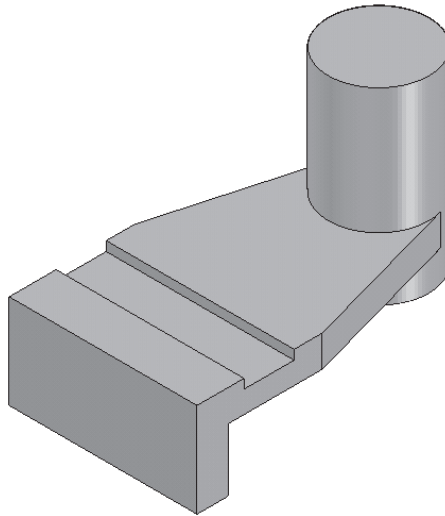

Figure 5-61 Model after creating the third feature
- c. Define a reference plane at an offset of 10 units from the bottom face of the second feature and use it to create the third feature, refer to Figure 5-61.
6. Choose **Finish** and then choose **Cancel** to create the feature and exit the **Protrusion** tool. The model, after creating the third protrusion feature, is shown in Figure 5-61.